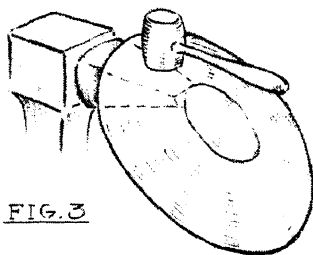
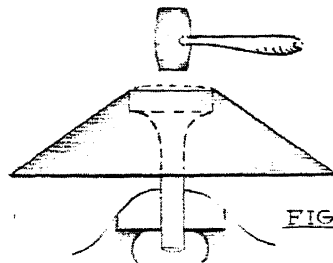

FIG. 3
FIG. 4
5. Flatten the side on an iron stake (Fig. 3).
6. Flatten the bottom on a stake having a 3-inch diameter (Fig. 4).
4. Bend the base strip to the curvature, as shown in Fig. 3.
5. Bend the curved strip to form a circle and solder with 50-50 solder (Fig. 4).
4. Hammer the 6-inch disk into shape, starting as shown in Fig. 3. Finish as shown in Fig. 4.